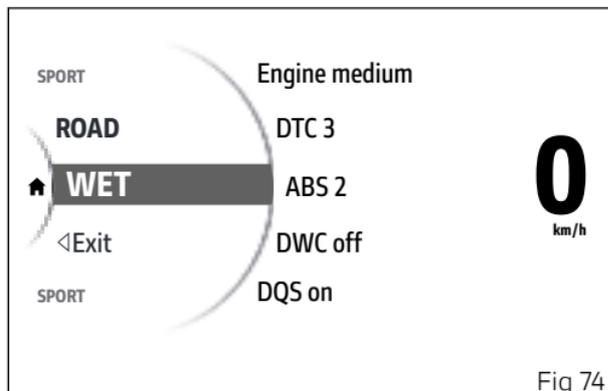

Fig 74
- Press and hold the MODE/ENTER button (3) for a long time.
- The dedicated screen is displayed (Fig 74) where, using buttons (1) and (2), it is possible to scroll through the available Riding Modes and display the parameters with the relevant set values.
- Press the MODE/ENTER button (3) to confirm.